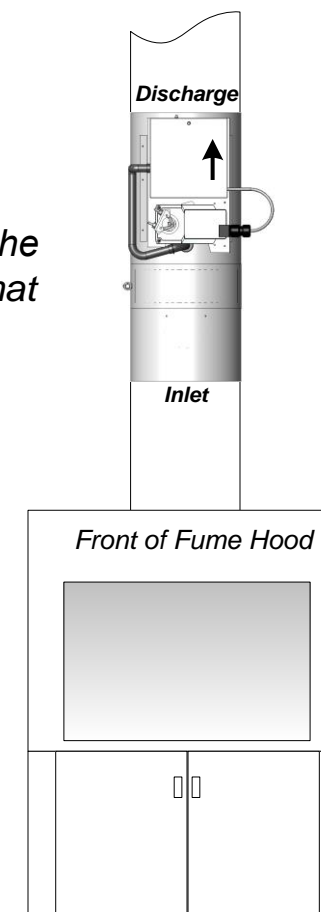

Figure 2
3. Locate the duct section which the valve is servicing and select a suitable mounting location for the valve. The recommended mounting position is vertical as shown in Figure 1. If vertical mounting is not possible and the valve is installed in a horizontal duct run, the valve shall be positioned with the transmitter on the top as shown in Figure 2.